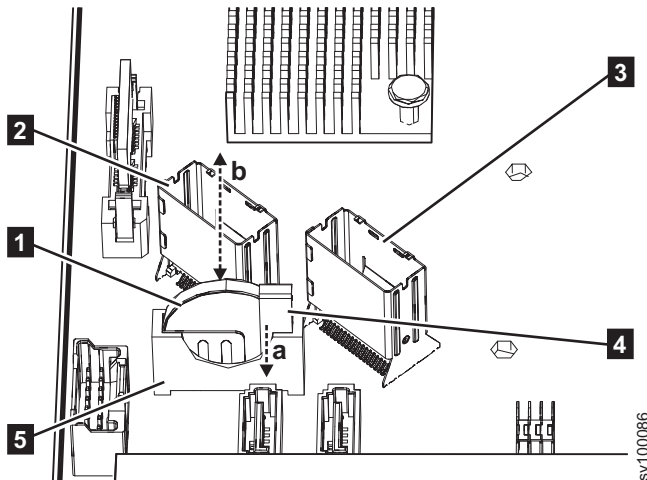

Figure 189. Replacing the 2145-SV1 CMOS battery
- a. Pull the battery holder catch **4** in the direction (a) shown in Figure 189.
- b. Insert the battery into the holder **5** in the direction (b) shown in Figure 189. The “+” mark on the battery must face towards the front of the node.